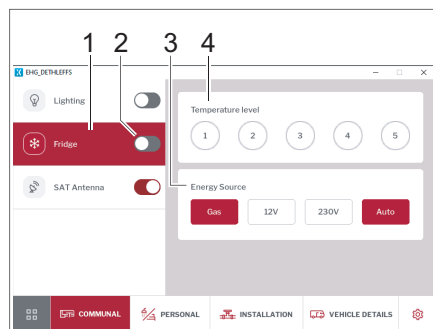

Fig. 261 Refrigerator
- Use the switch to turn the refrigerator (Fig. 261,2) on or off.
- Click on the *Refrigerator* (Fig. 261,1) button. The cooling level (Fig. 261,4) and energy source (Fig. 261,3) can be configured in the control panel.